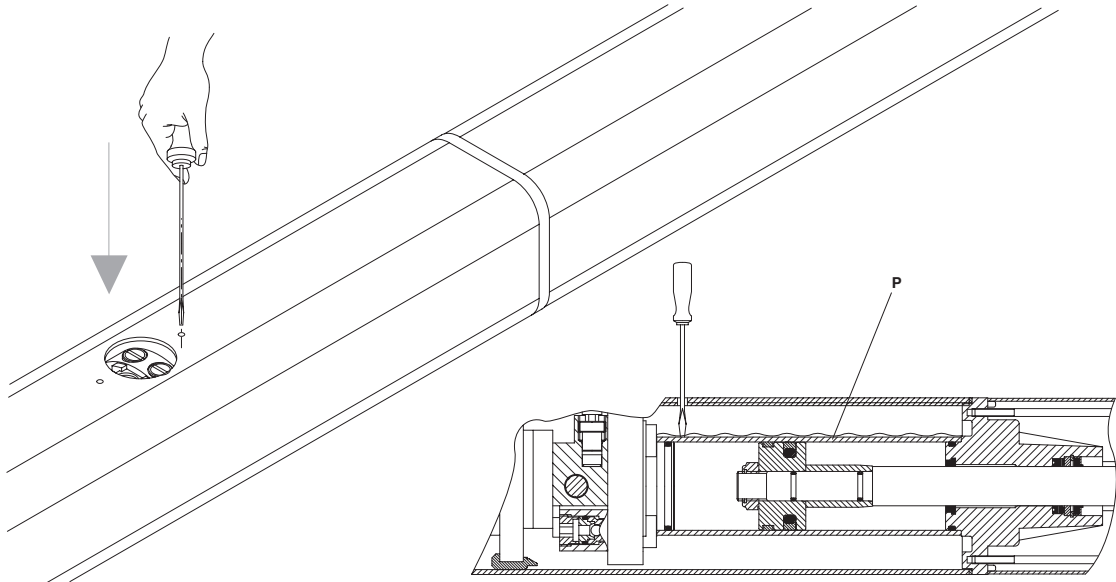

Fig. 21
- 4) Slacken the slow-down screw (fig.21) using the 3mm Allen wrench provided.
- 14) Completely close the slow-down screw by turning it towards the "+" sign (fig.21) and activate the leaf closing operation. The leaf should stop before arriving at the closing position.